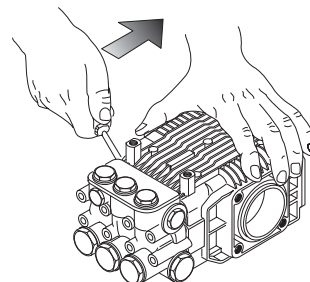

Figure 4
2. While turning the Crankshaft, use two screwdrivers to carefully pry between the Pump Head and Pump Body to remove the Pump Head (See Figure 4).
2. While turning the crankshaft, use two screwdrivers to carefully pry between the pump head and pump body to remove the pump head (See Figure 4).